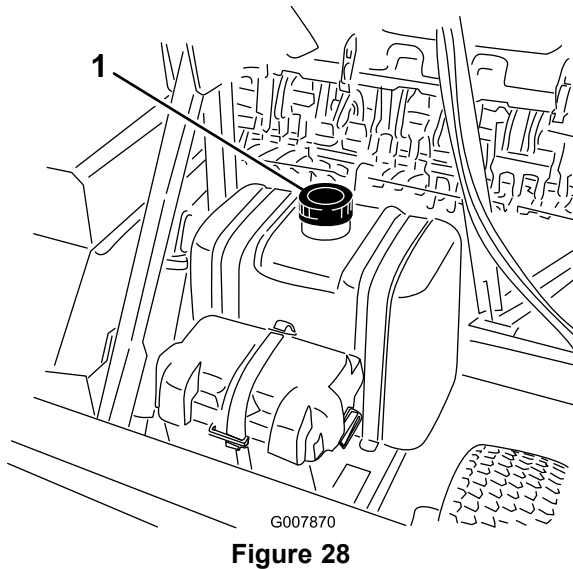

Figure 28
2. Clean around each fuel tank cap (Figure 28) and remove the cap.